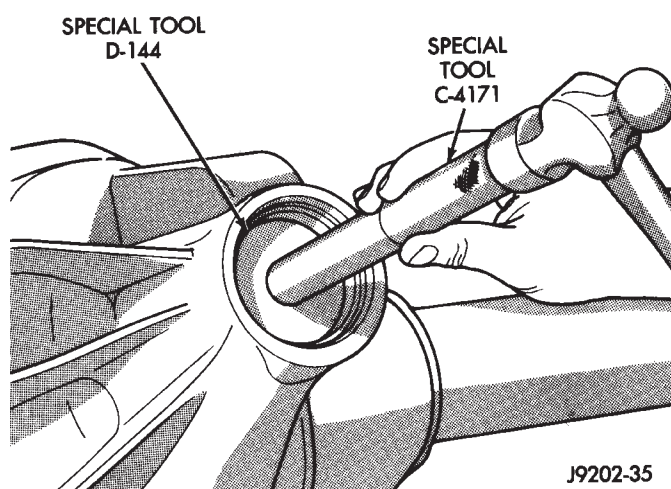

Fig. 52 Pinion Front Bearing Cup Installation
(2) Install the pinion front bearing cup with Installer D-144 and Handle C-4171 (Fig. 52).